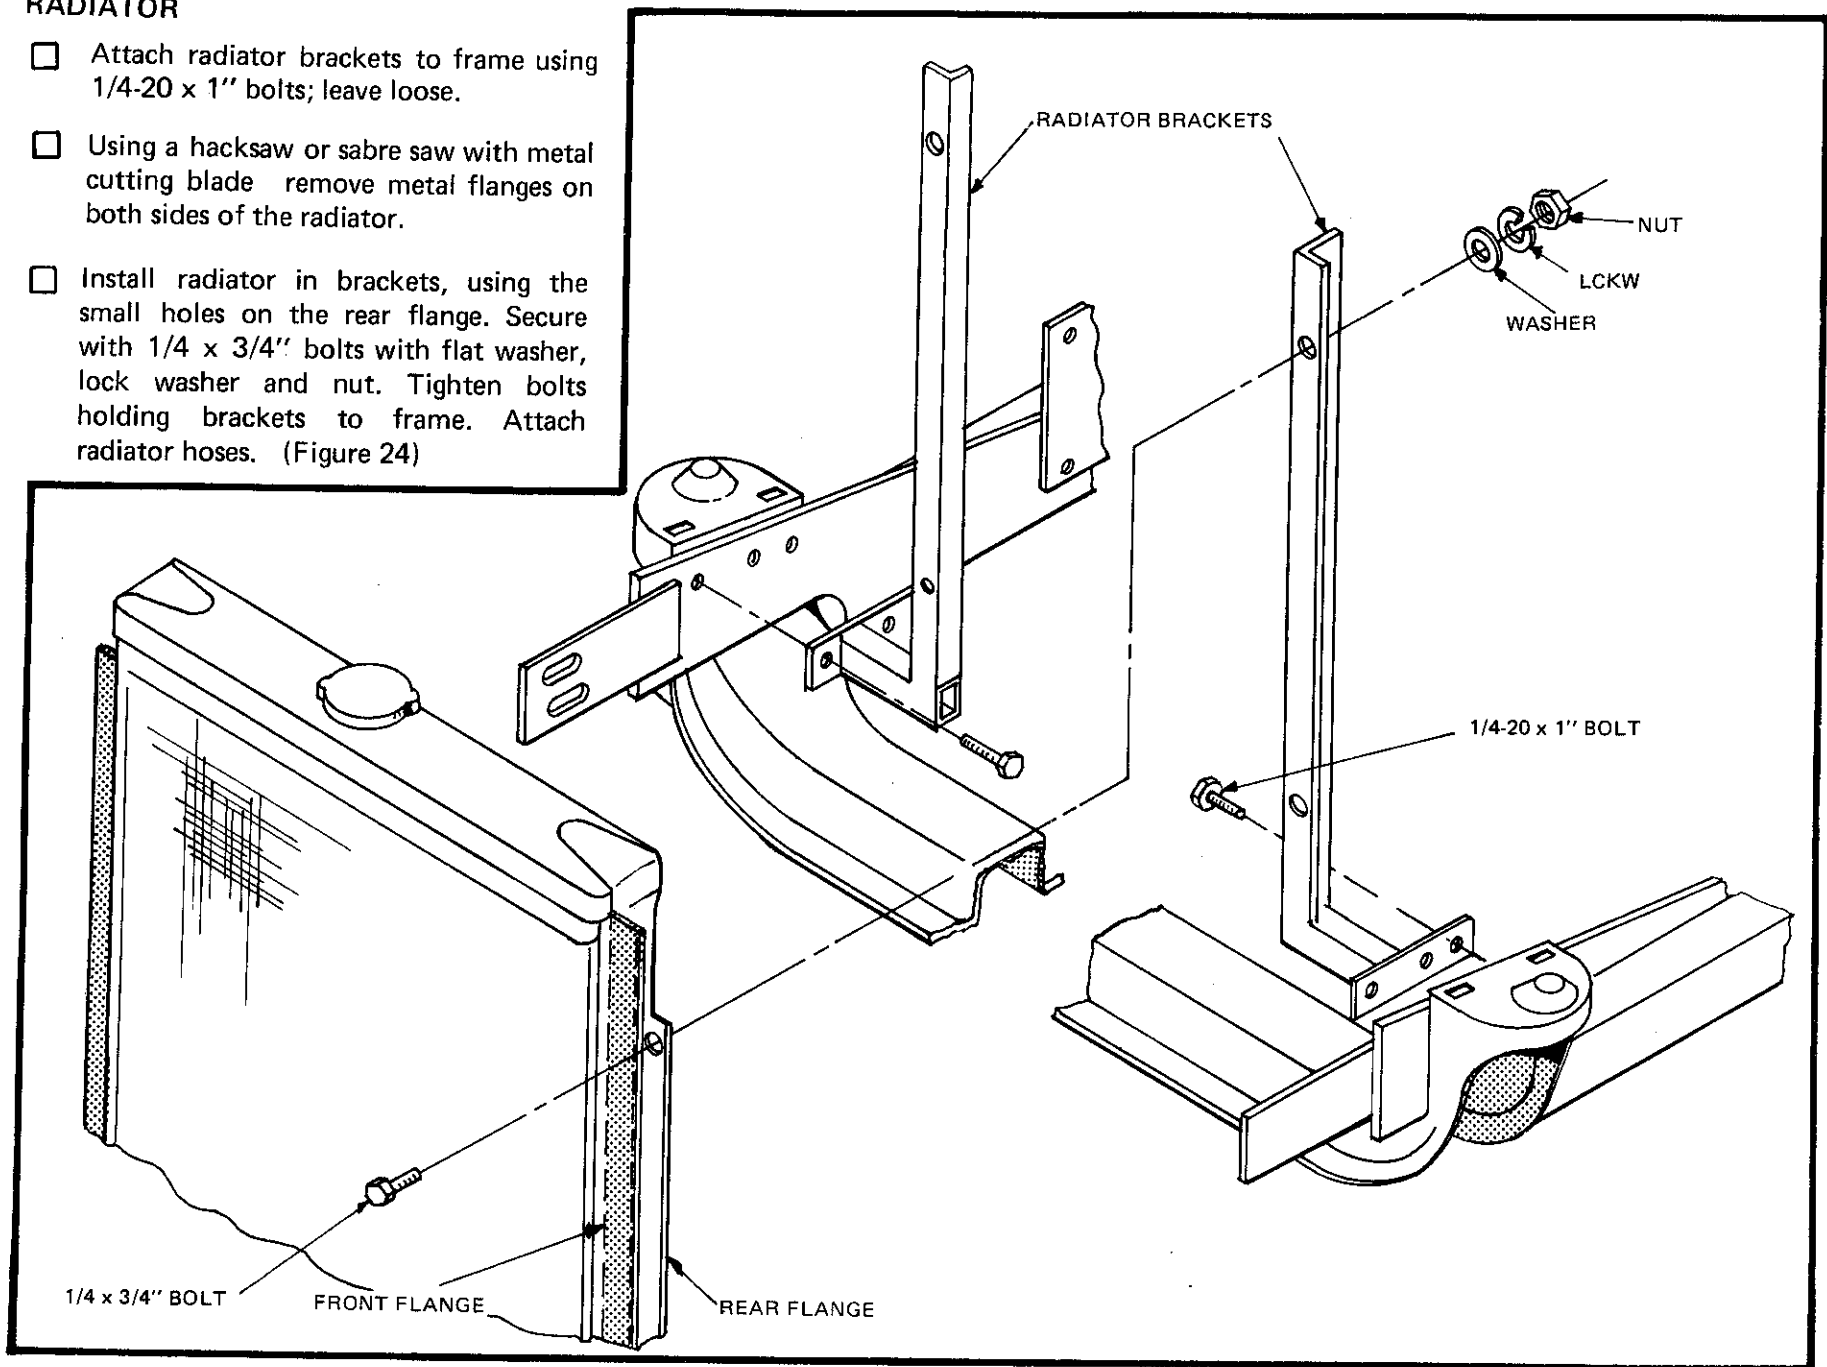

Figure 24
- ☐ Install radiator in brackets, using the small holes on the rear flange. Secure with 1/4 x 3/4" bolts with flat washer, lock washer and nut. Tighten bolts holding brackets to frame. Attach radiator hoses. (Figure 24)